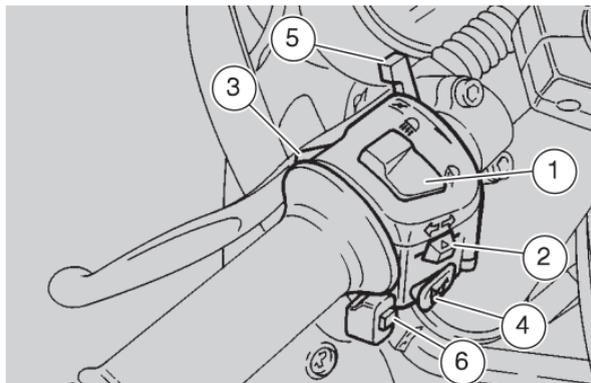

Fig. 5
CONTROLS ON THE LEFT SIDE OF THE HANDLEBAR (Fig. 5)
(on the left half of the handlebars - pos. 6 - Fig. 5)